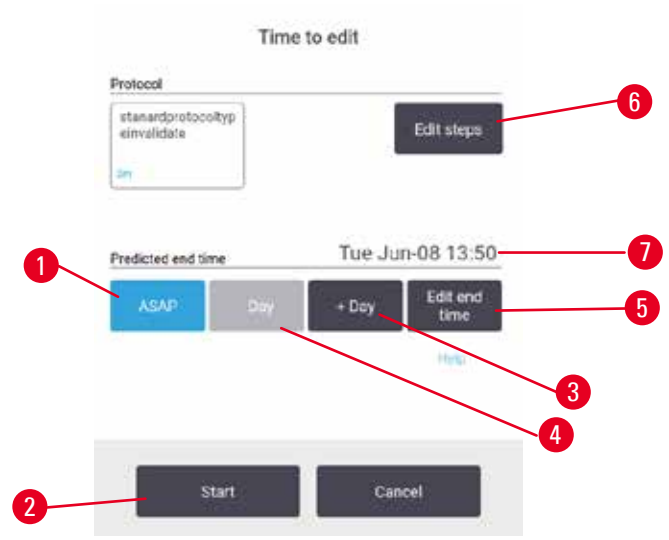
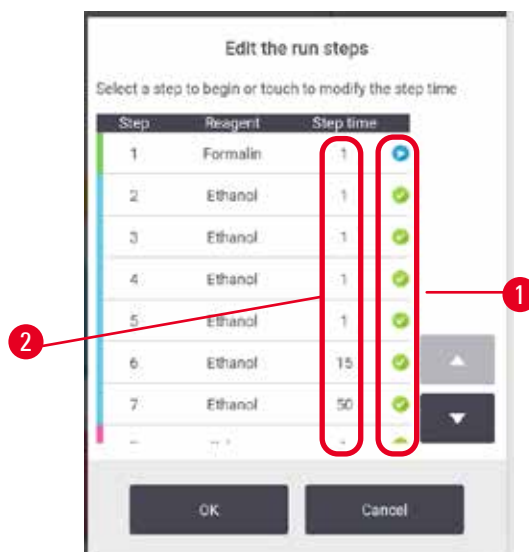

Fig. 53
Fig. 55
You schedule a protocol run in the **Time to edit** dialog box (→ Fig. 53). The dialog box opens after you have loaded the protocol, input baskets ID, and input the number of cassettes (→ p. 83 – 5.5.2 Changing the starting step for a single run).
1. Start a protocol run as normal from the **Status** screen and continue until the **Time to edit** dialog box (→ Fig. 53) opens. Tap **Edit steps** (→ Fig. 53-6) to open the **Edit the run steps** dialog box (→ Fig. 55).